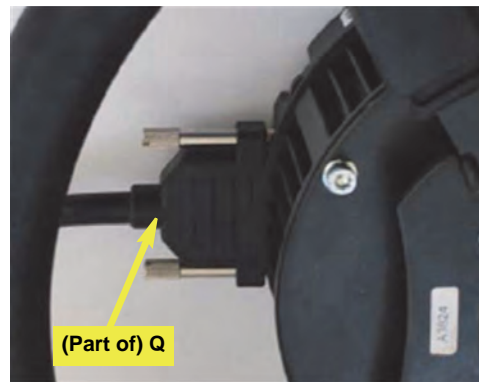

Figure 7b: Junction box comms cable connected to steering wheel assembly
- c. Clip the junction box **Q** into place on its bracket **R** (neither shown) then connect **Q**’s 15-pin connector cable to the communications port on the steering wheel assembly (Figure 7b). Use clip **T** suitably (not shown).